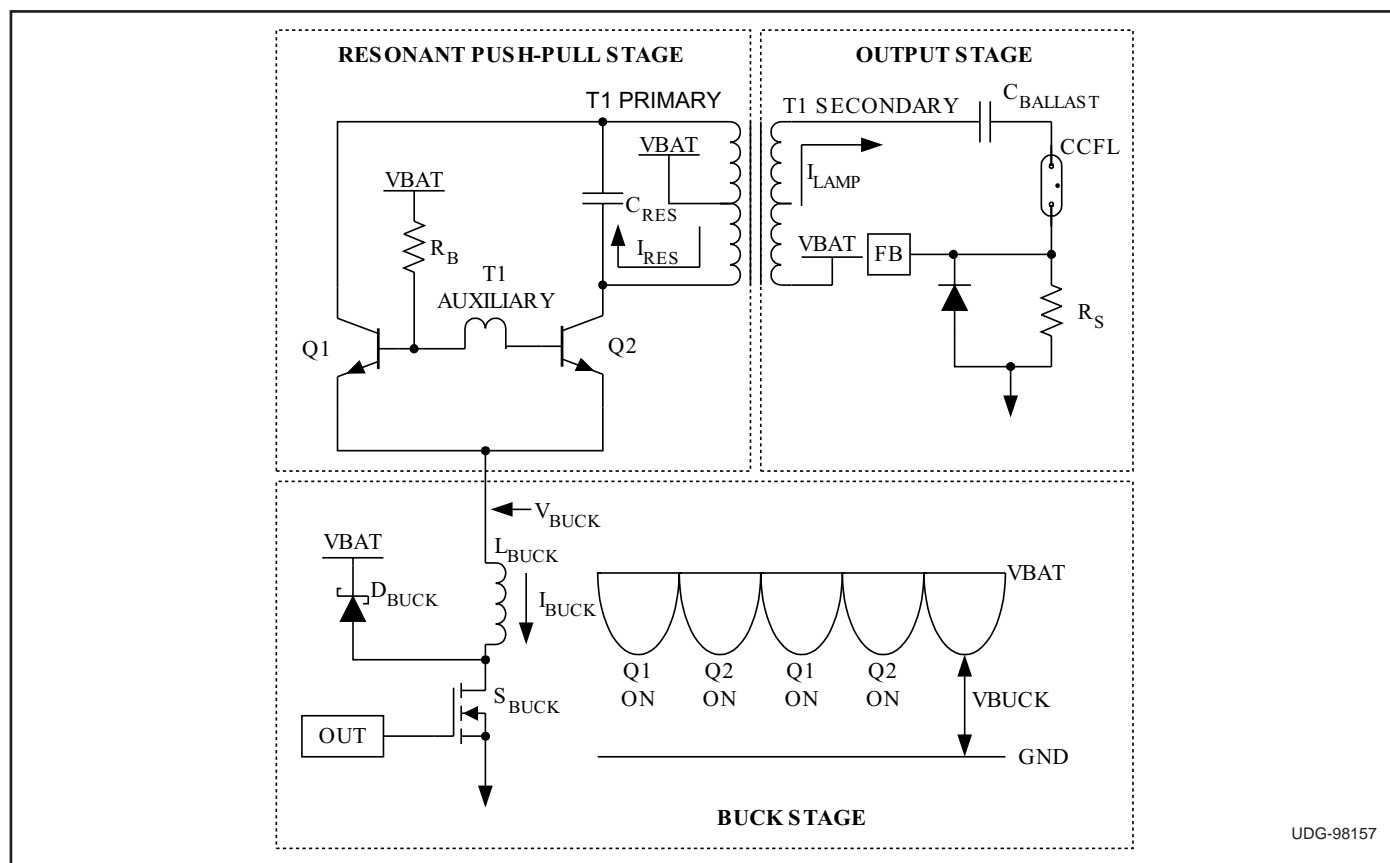

Figure 1. Push-pull, output, and buck stages.
A current fed push-pull topology is used to power the CCFL backlight shown in Fig. 1. This topology accommodates a wide input voltage and dimming range while retaining sinusoidal operation of the lamp. The converter consists of a resonant push-pull stage, a high voltage output stage, and a buck pre-stage used to regulate current in the converter.
Referring to Fig. 1, the push-pull stage consists of C_{RES} , Q1, Q2, R_B , and T1's primary and auxiliary windings. The output stage consists of $C_{BALLAST}$, the lamp, the current sense resistor R_S , and T1's secondary. The resonant frequency of the tank is set by the primary inductance of T1, along with the resonant capacitor (C_{RES}), and the reflected secondary impedance. The secondary impedance includes the lamp, the ballast capacitor ($C_{BALLAST}$), the distributed winding capacitance of T1, and the stray capacitance which forms between the lamp, lamp wires, and the backlight reflector. Since the lamp impedance is nonlinear with operating current, the tank resonant frequency will vary slightly with load (typically 1.5:1).
frequencies, the UCC3972/3 synchronizes the buck frequency to the frequency of the push-pull stage. The traditional buck topology is inverted to take advantage of the lower $R_{DS(on)}$ characteristics of an N-Channel MOSFET switch (S_{BUCK}). With a sinusoidal voltage across the tank, the resulting output of the buck stage (V_{BUCK}) becomes a full-wave rectified voltage referenced to VBAT as shown in Fig. 1.
Referring back to Fig. 1, when OUT turns S_{BUCK} on, the BUCK node voltage V_{BUCK} is placed across the inductor. This voltage is typically positive and current ramps up in the inductor (it is possible for the BUCK node voltage to go negative if VBAT is low and the lamp current is near maximum). When S_{BUCK} is turned off, $V_{BAT}-V_{BUCK}+V_{D_{BUCK}}$ is placed across the inductor with opposite polarity. As with any buck converter, the volt-seconds across the inductor must be reversed on each switching cycle to maintain constant current. The duty cycle (D) relationship is complicated somewhat by the fact the output voltage is changing within a switching cycle. The equations below determine the relationship between on and off times in continuous conduction mode where T is the switching period, $D = t_{ON}/T$, and $t_{OFF} = T - t_{ON}$.